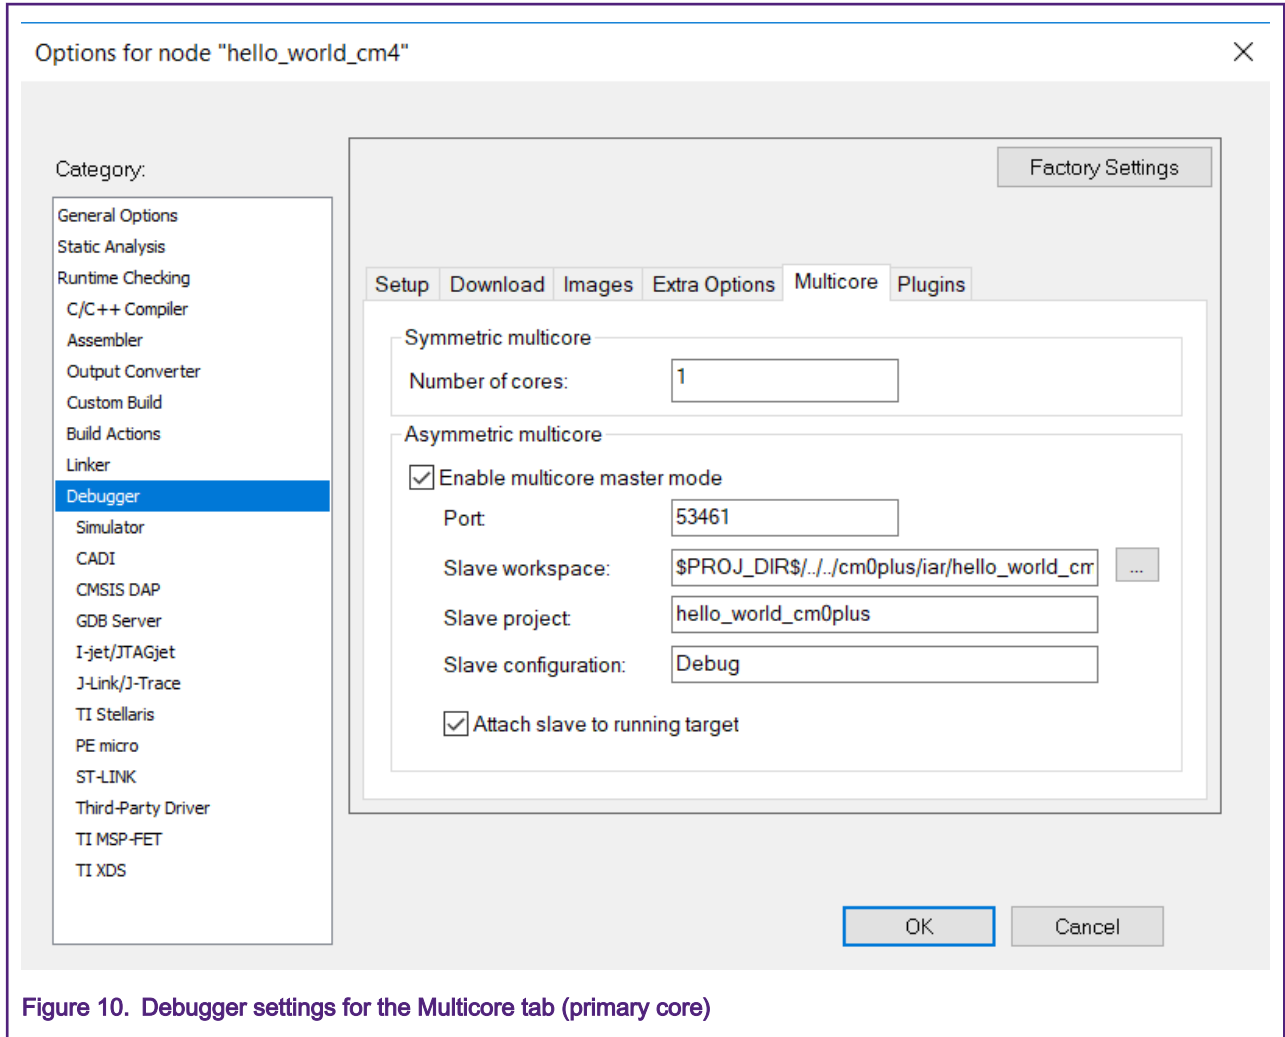

Figure 10. Debugger settings for the Multicore tab (primary core)
3. Examine the **Multicore** tab. This is arguably the most important tab. As with the linker options, this tab requires knowledge of the slave (or secondary core) workspace. Figure 10 displays the **Multicore** tab.